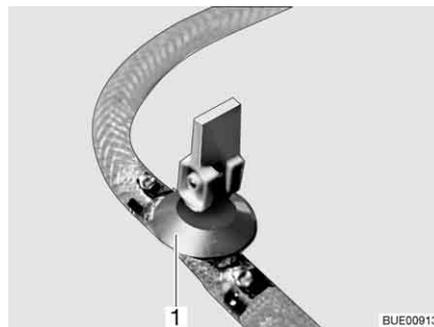

Fig. 198 Drain cock
- Close the drain cock(s). Position the rocking lever (Fig. 198,1) horizontally.
- Open drain cock(s) (Fig. 198). To do so, set the rocking lever (Fig. 198,1) in a vertical position. The boiler is drained to the outside.